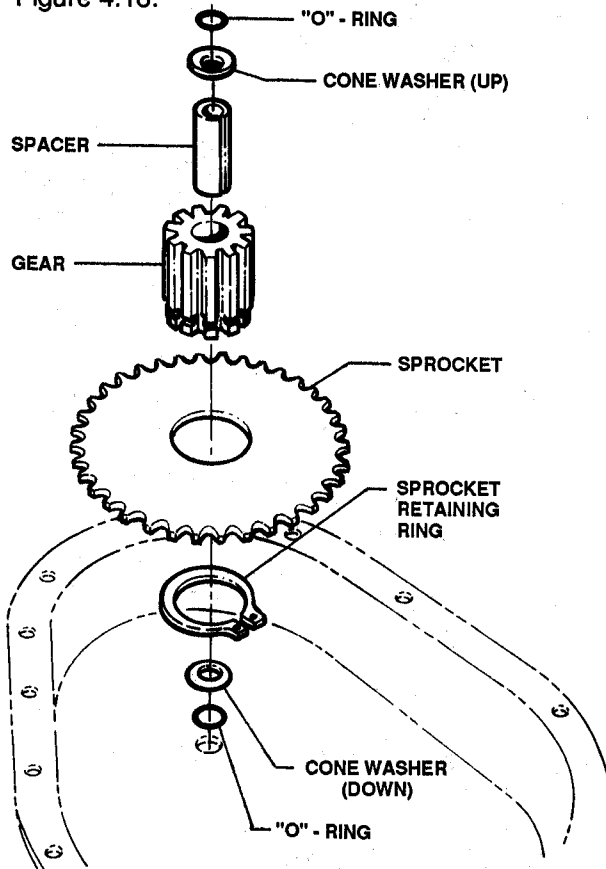

FIGURE 4.18
17. Remove lower cone washer and "O" ring. See Figure 4.18.